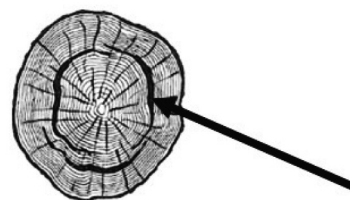

Figure 17
- 50 What type of shake is indicated by the arrow shown in Figure 17?